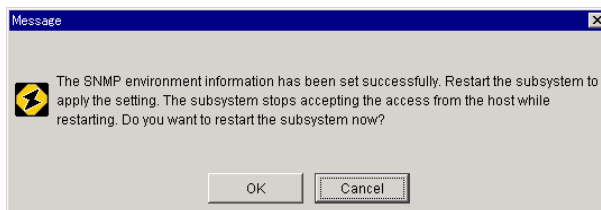

Figure 5.7 Settings/Environment Complete Dialogue Box
6. A message appears, confirming that the settings are complete (Figure 5.7). This message also asks you to restart the system. Click the OK button.